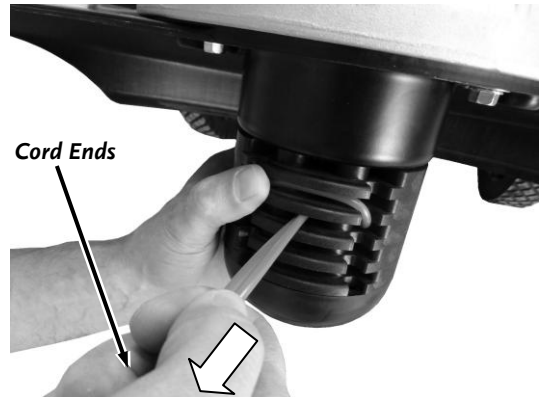

Figure 6
3. Pull the Cord ends under the loop and push the loop up into the Line Plate groove above them (**Figure 6**) and then pull tight.